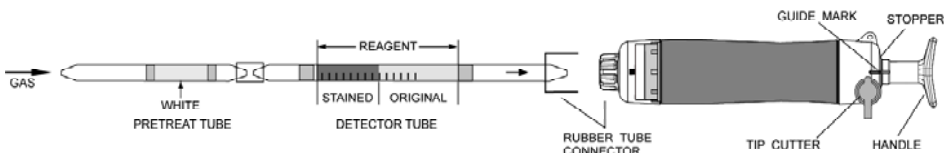

Fig.1
- ① Break both ends of the detector tube and pretreat tube, and connect each end of the detector tube and pretreat tube with rubber tube connector as shown in Fig.1.
- ② Insert the detector tube into aspirating pump securely as shown in Fig.1. (Arrow mark shall point to the pump.)
- ③ Align the guide marks on the shaft and stopper of the aspirating pump.
- ④ Pull the pump handle at full stroke locked position and wait for 1 minutes or until the completion of sampling is confirmed with the flow indicator of the pump (See descriptions about the flow indicator in the instruction manual of the pump).
- ⑤ Turn the handle right or left by 1/4 (90°), push it toward to the pump without removing the detector tube from the pump inlet and then repeat the step ④ once again.
- ⑥ On completion of sampling, read the scale at the maximum point of the stained layer.
- ⑦ When the concentrations are below the scale range, multiple pump strokes can be used to determine these lower concentrations.